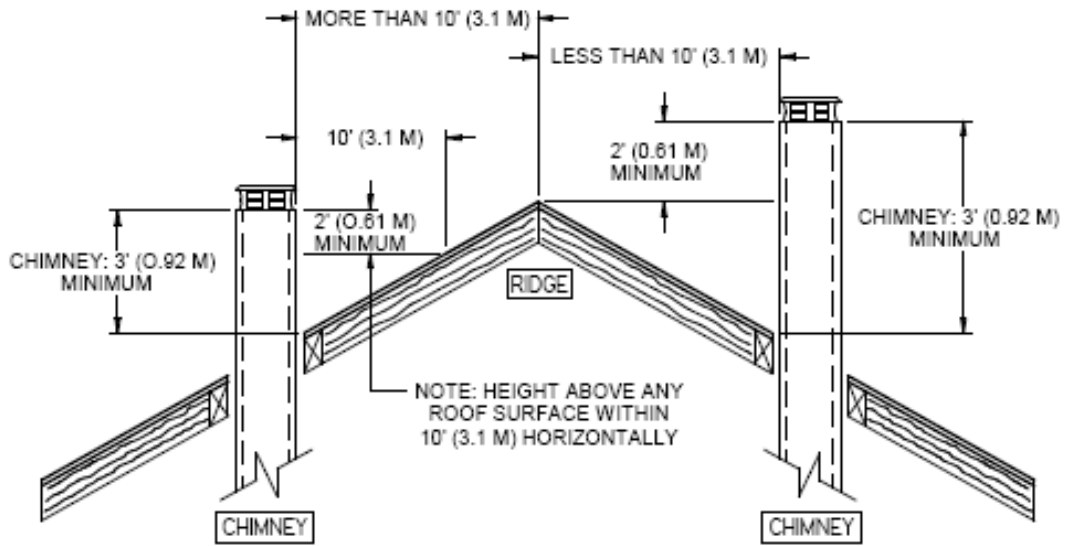

Figure 6a
6. The chimney must extend at least 3 ft. (92 cm) above its point of contact with the roof and at least 2 ft. (61 cm) higher than any wall, roof or building within 10 ft. (3.1 m) of it. See Figure 6a and 6b to determine the configuration that applies to your roof (flat or sloped roof and the distance between the chimney and the highest point of the roof and/or the nearest chimney).